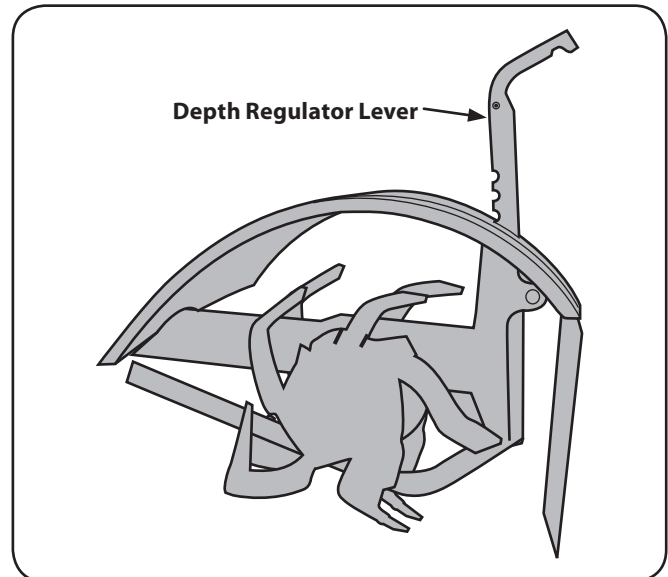

Figure 3-8
1. With the tiller on level ground, pull the Depth Regulator Lever back and then all the way up until the lowest notch in the lever is engaged. See Fig. 3-8.